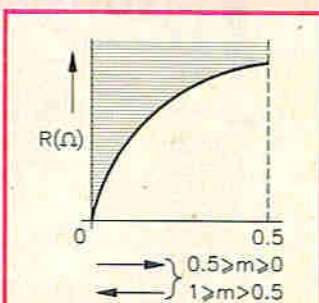

Figure 13. A satisfactory value of R falls in the shaded area above the half-parabola.
the same horizontal scale 'folded-back', as shown in Figure 13. By doing this we obtain an expanded m-scale and easier plotting for a given size of graph paper. To satisfy the condition imposed in (14) we must operate either on the curve or in the shaded region above it.